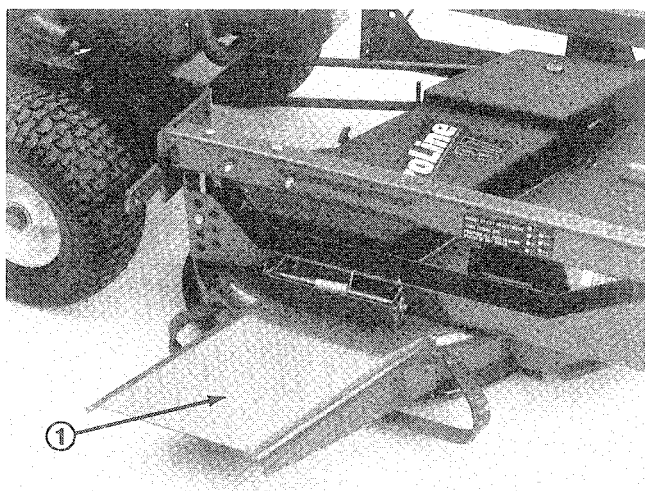

Figure 7
3. Secure discharge chute (Fig. 7) to deck channel with (2) capscrews, lockwashers and wing nuts previously securing discharge cover to deck channel.